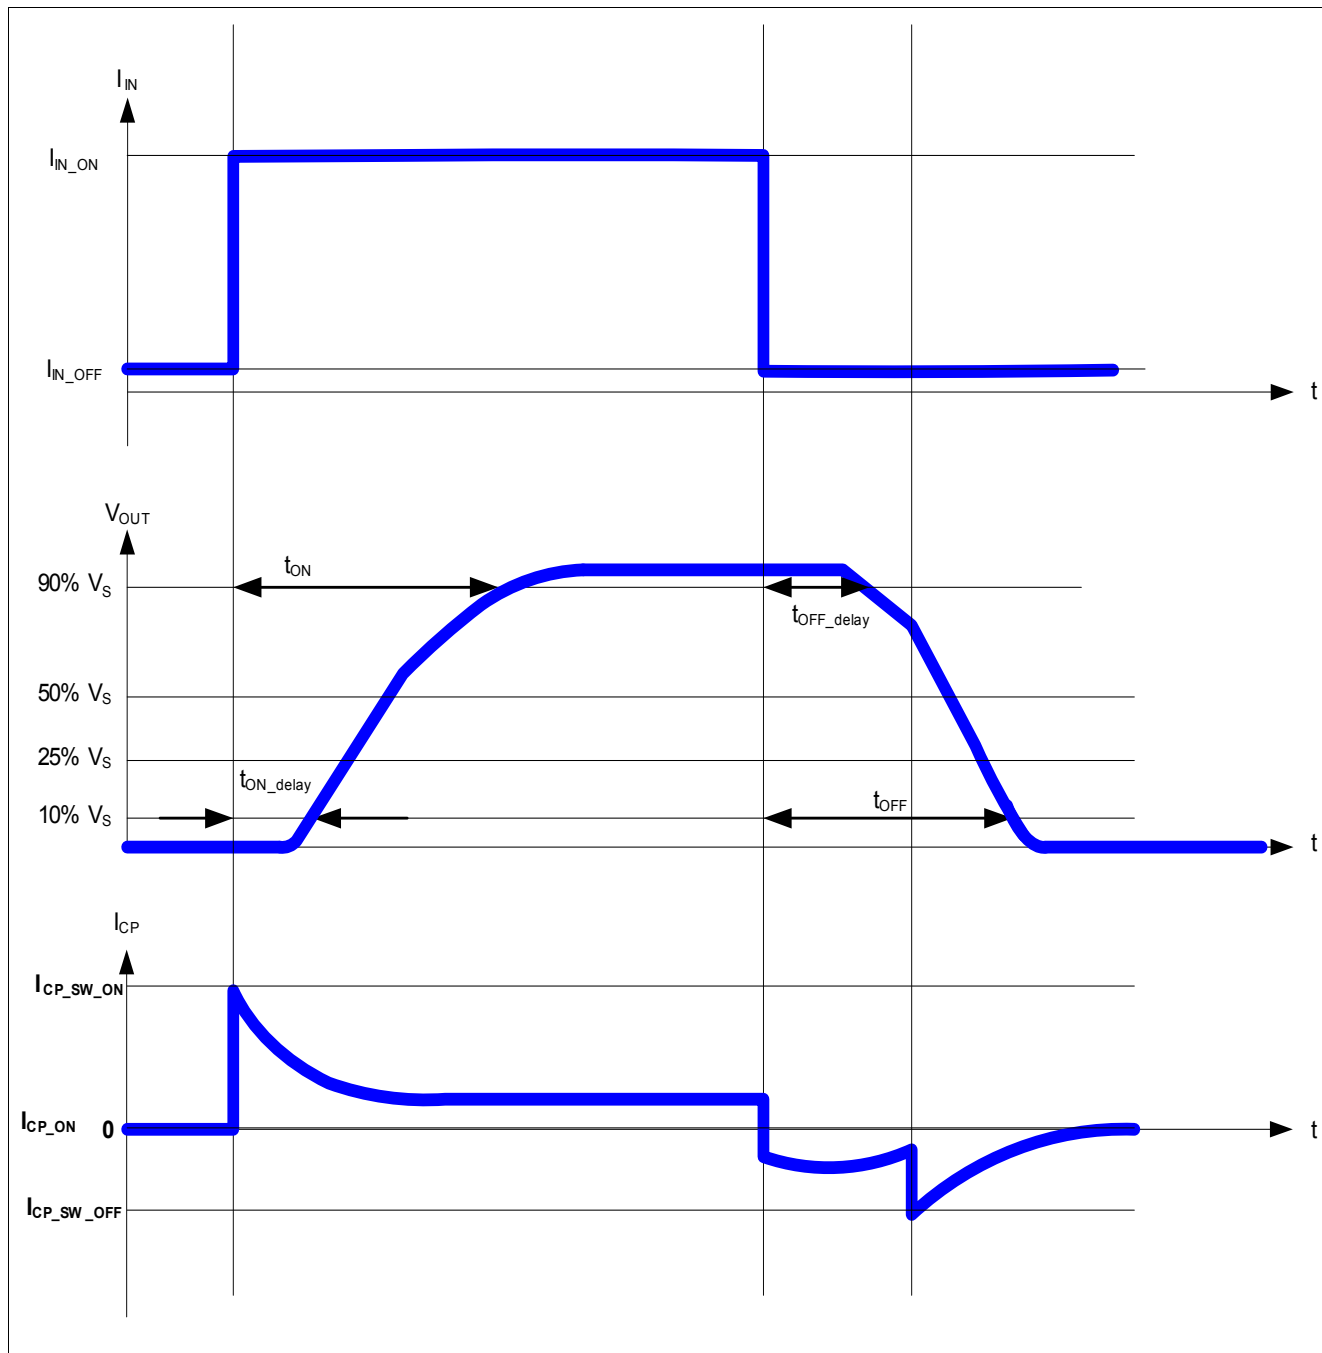

Figure 13 Timing Diagram of BTC50010-1TAA Connected with BTC30010-1TAA on its CP Pin
*Note: **Figure 13** shows the general switching behavior. Under real condition, voltage or current sketch deviation is possible.*